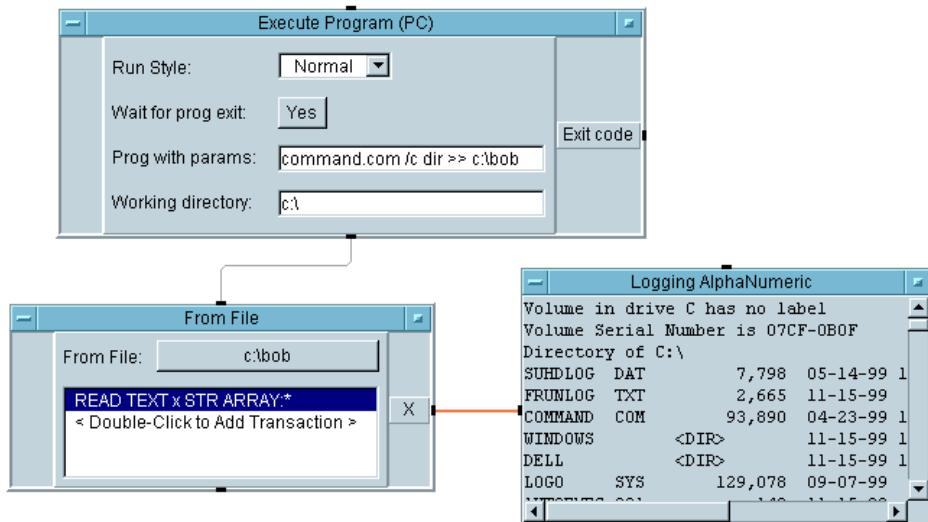

Figure 7-3. Listing the Files in a Directory (PC)
- c. Click on the SIZE: (10) field to toggle it to TO END: (*), then click OK. The transaction bar should now read: READ TEXT x STR ARRAY:*. This transaction will read the contents of the bob file.
5. Run the program. It should look like Figure 7-3.